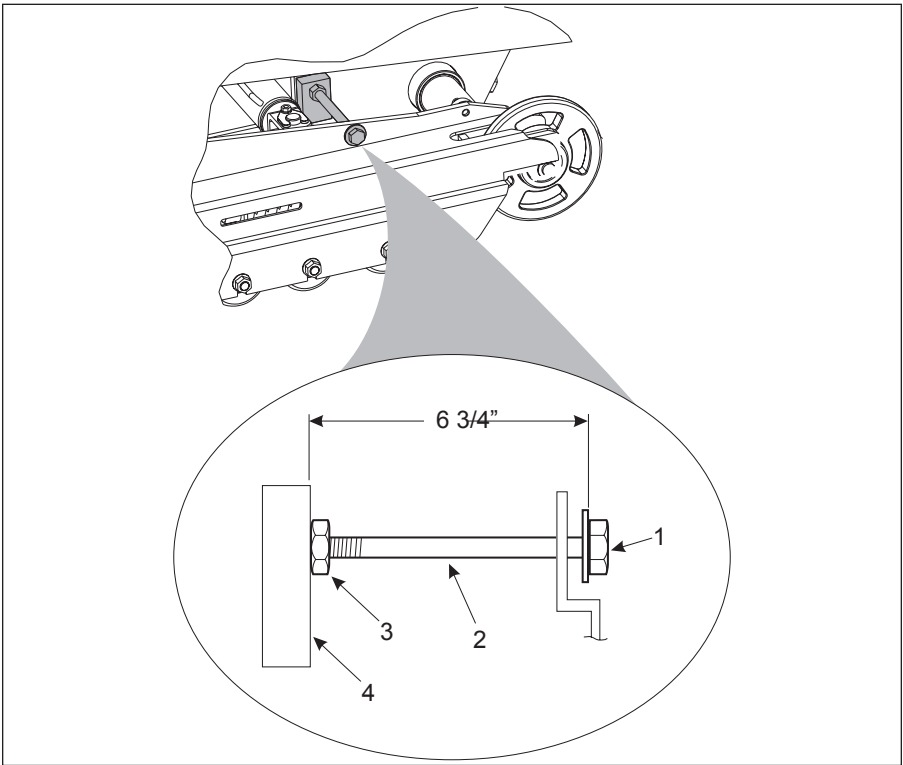

Figure 4-13 Track Widening Stop Bolt Adjustment
13. If the stop bolt lock nut (Item 3, **Figure 4-13**) is loose, check the distance between the mounting block (Item 4, **Figure 4-13**) and bottom side of the bolt head (Item 1, **Figure 4-13**). The correct measurement is 6 3/4" (17 cm) from the outside edge of the stop block to the bottom edge of the head of the stop bolt (Item 1, **Figure 4-13**).
- a. Loosen the lock nut (Item 3, **Figure 4-13**),
- b. Rotate the stop bolt (Item 2, **Figure 4-13**) to set the correct measurement of 6 3/4" (17 cm) from the outside edge of the stop block to the bottom edge of the head of the stop bolt (Item 1, **Figure 4-13**).